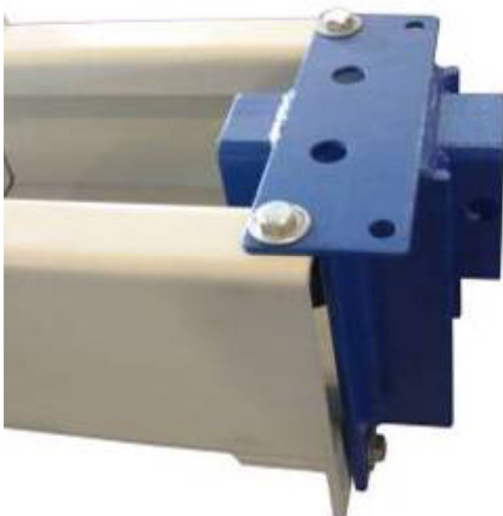

Fig. 4a
4. Attach the cylinder mounts (uprights) using 4ea 1/2" x 1-3/4" bolts, washers and nuts provided as shown in figure 4a & 4b.